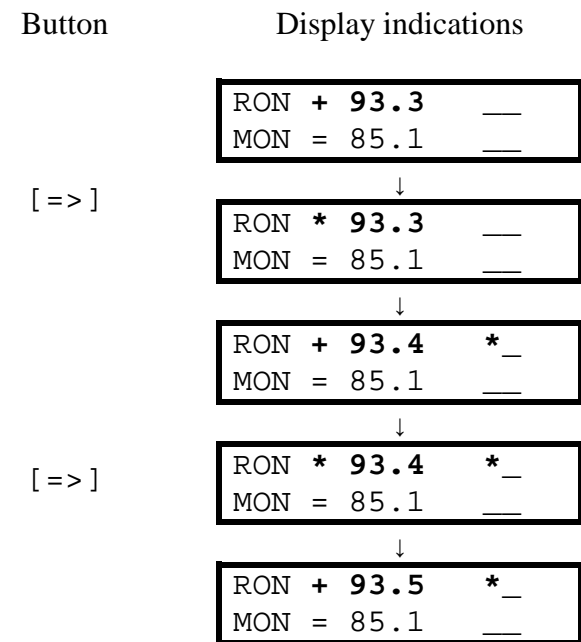

Figure 6. Example of operation "+"performance.
3.6.5. Set the parameter being corrected to the required value. For this purpose press the buttons [<=] or [=>]. At this the symbol of operation is replaced with “*”symbol for a short period of time (the instrument processes the received information), then the parameter value changes. In Figures 6 and 7 examples of performance of operations «+» and «<» are presented. At using operations «+» and “-“, each pressing of button [<=] or [=>] makes change in the parameter by 0.1 units of octane (cetane) number. When using operations “<” and “>”, the change in the parameter by 0.1 units of octane (cetane) number does not always occur, therefore it needs to make, if necessary, several pressing.